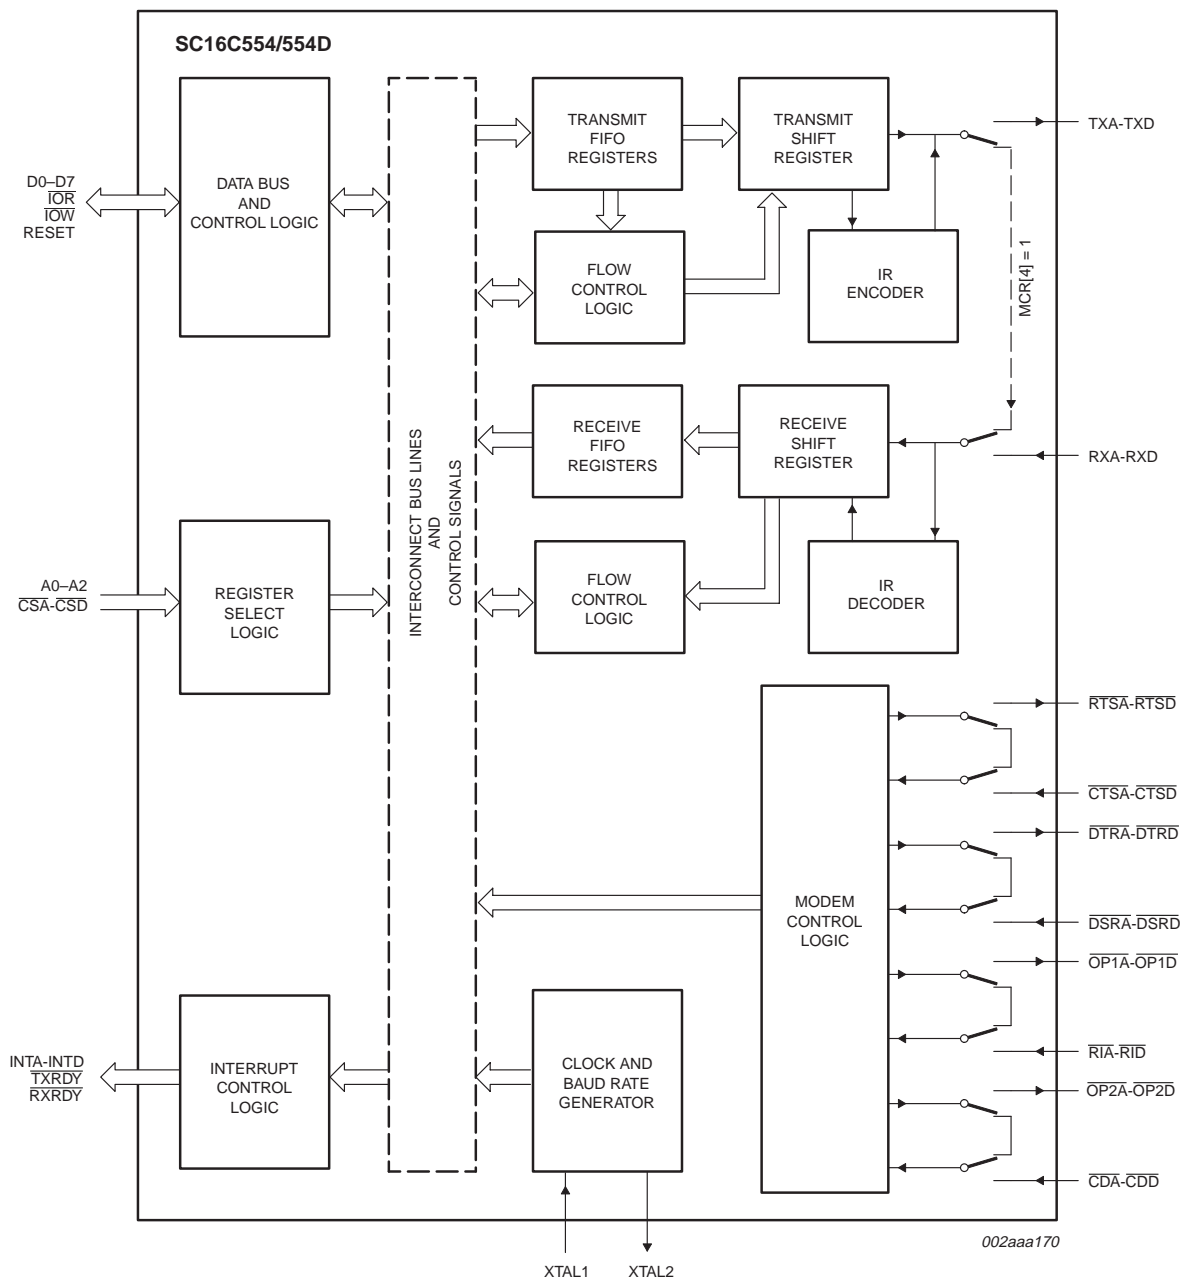

Fig 8. Internal loop-back mode diagram (16 mode).
The internal loop-back capability allows on-board diagnostics. In the loop-back mode, the normal modem interface pins are disconnected and reconfigured for loop-back internally. MCR[0-3] register bits are used for controlling loop-back diagnostic testing. In the loop-back mode,  $\overline{\text{OP1}}$  and  $\overline{\text{OP2}}$  in the MCR register (bits 2-3) control the modem  $\overline{\text{RI}}$  and  $\overline{\text{CD}}$  inputs, respectively. MCR signals  $\overline{\text{DTR}}$  and  $\overline{\text{RTS}}$  (bits 0-1) are used to control the modem  $\overline{\text{DSR}}$  and  $\overline{\text{CTS}}$  inputs, respectively. The transmitter output (TX) and the receiver input (RX) are disconnected from their associated interface pins, and instead are connected together internally (see Figure 8). The  $\overline{\text{CTS}}$ ,  $\overline{\text{DSR}}$ ,  $\overline{\text{CD}}$ , and  $\overline{\text{RI}}$  are disconnected from their normal modem control input pins, and instead are connected internally to  $\overline{\text{RTS}}$ ,  $\overline{\text{DTR}}$ ,  $\overline{\text{OP2}}$  and  $\overline{\text{OP1}}$ . Loop-back test data is entered into the transmit holding register via the user data bus interface, D0-D7. The transmit UART serializes the data and passes the serial data to the receive UART via the internal loop-back connection. The receive UART converts the serial data back into parallel data that is then made available at the user data interface D0-D7. The user optionally compares the received data to the initial transmitted data for verifying error-free operation of the UART TX/RX circuits.